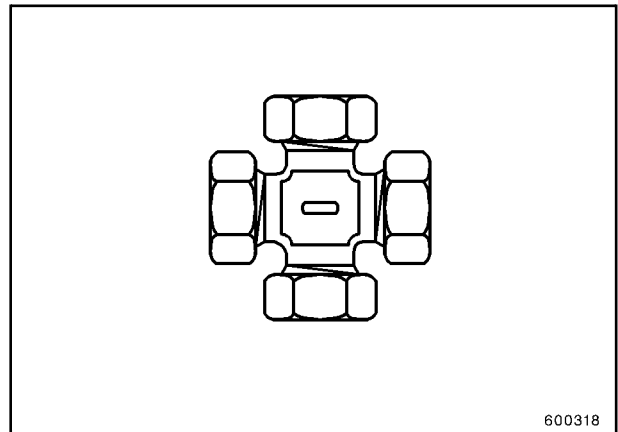

Fig. 4
- "X" or cross couplings (Fig. 4).